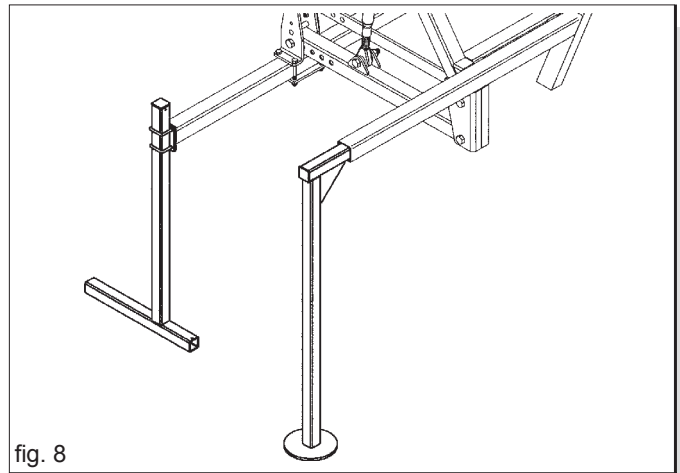

fig. 8
- insert the rear props in the parking position (Fig. 8);
- insert the front props in the parking position (Fig. 8).
6) Slip out the parking feet (Fig. 8).